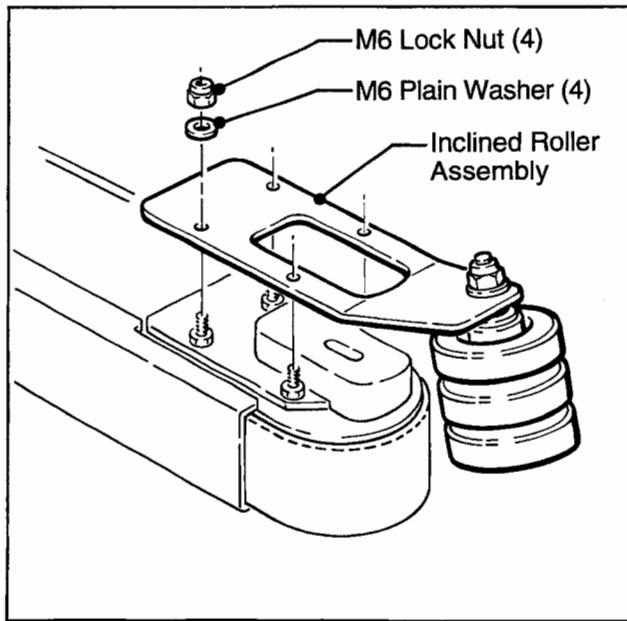

Figure 2-1 – Roller Installation
2. Install inclined rollers onto infeed end of each drive belt assembly. Remove M6 lock nuts (4) and M6 plain washers (4) from each drive assembly, position inclined roller on each drive assembly and fasten with M6 plain washers and M6 locking nuts. See Figure 2-1.